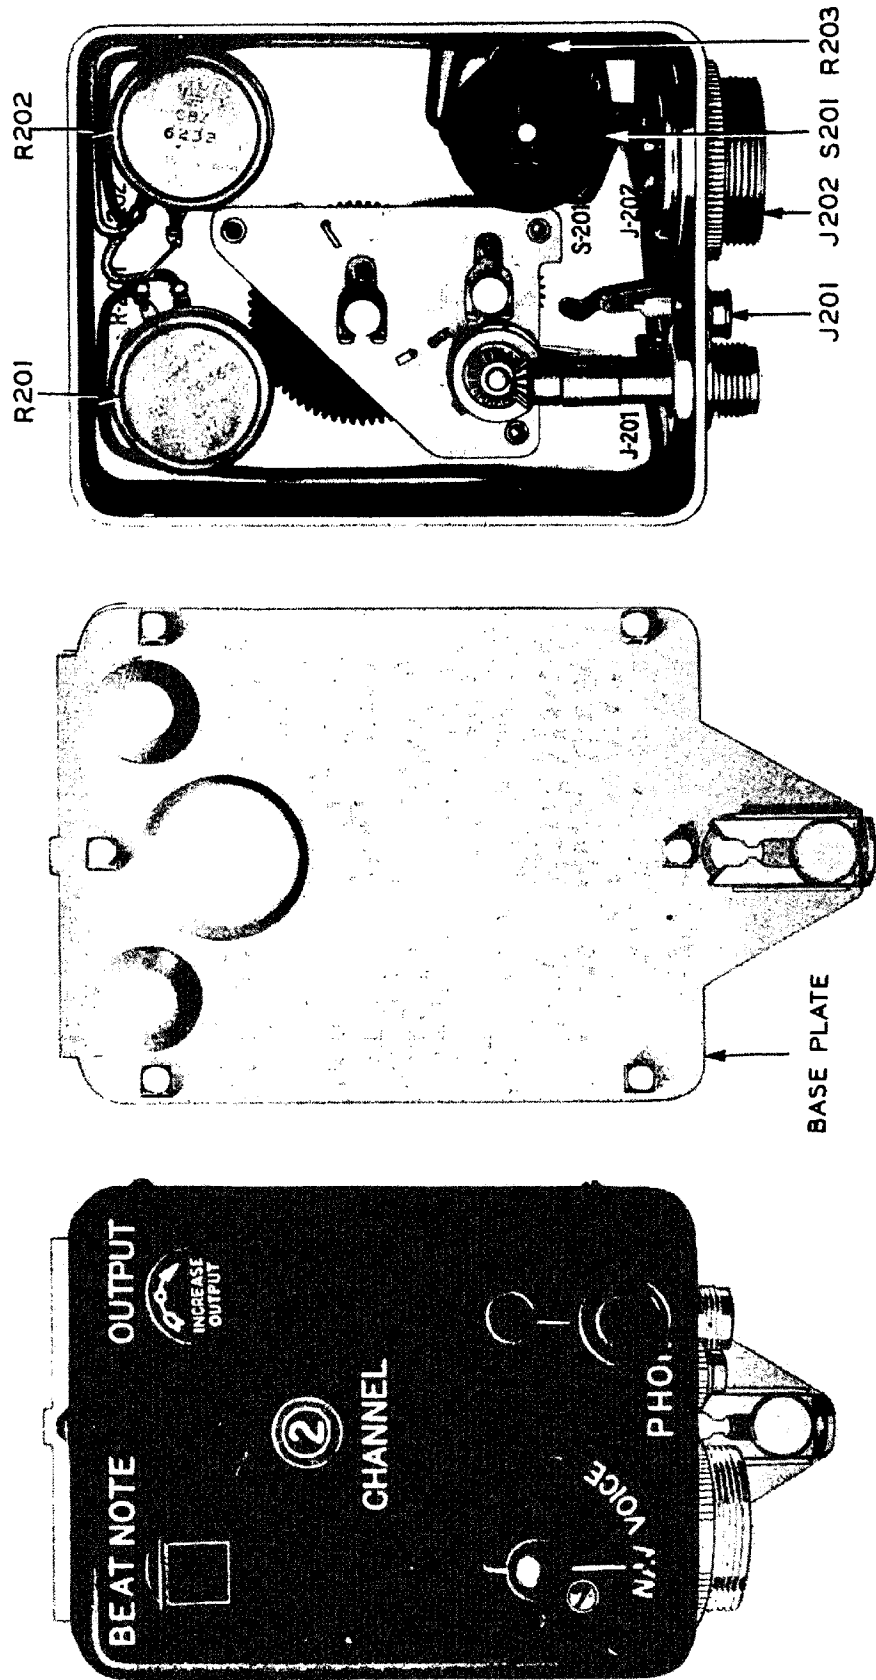
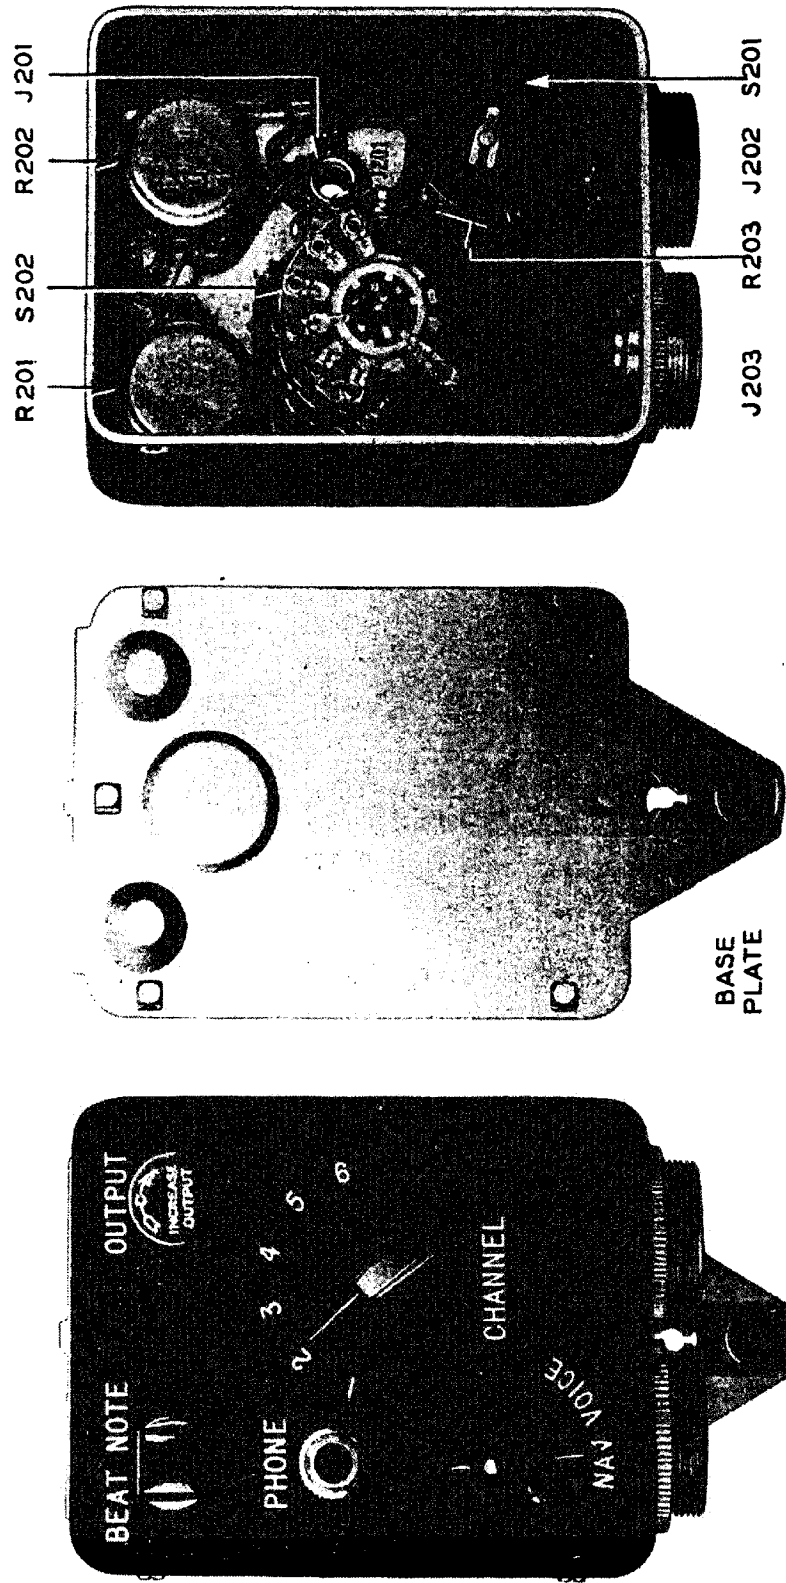

Figure 3—Control Unit *C-2/ARR-2
Figure 4—Control Unit *C-35/ARR-2A
a. Control Unit *C-2/ARR-2, shown in figure 3, is used only with Aircraft Radio Receiving Equipments *AN/ARR-2, -2X. Control Units *C-35/ARR-2A and *C-116/ARR-2A, shown in figures 4 and 5, are used with Aircraft Radio Receiving Equipments *AN/ARR-2A, -2AX. When Control Unit *C-116/ARR-2A is used, it is necessary to provide a jumper between contacts 5 and 8 of Plug P504 (see figure 14H) in order to put the audio signal into Mounting Rack *MT-7/ARR-2. (*MT-6/ARR-2X in the case of 14-volt equipments.) In some aircraft installations, the audio output is taken from the control unit (for Control Units *C-2/ARR-2 and *C-35/ARR-2A only) while in other installations, the the output is taken from an interphone amplifier.